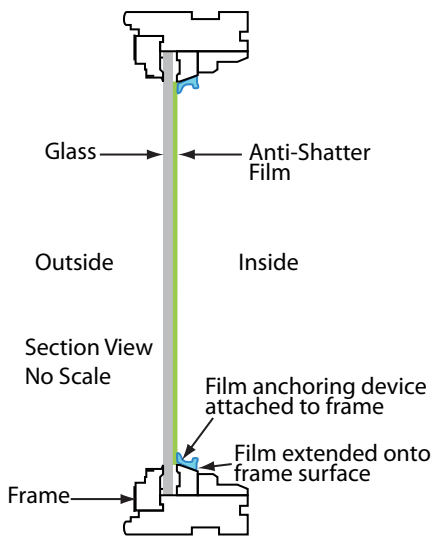

Figure 4: Attached FRF.
*Attached FRF* – The most effective technique using FRF involves fastening it to the frame around the glass along either two opposite sides or all four sides (Figure 4). Needless to say, it is also the most complex, most intrusive and most expensive option, requiring thicker FRF – 7 mils minimum – as well as mechanical attachment or the application of a structural silicone sealant. As with laminated glass, it may be necessary to replace or reinforce the framing members and connections in order to ensure that the entire assembly is not dislodged from the wall in a blast event.